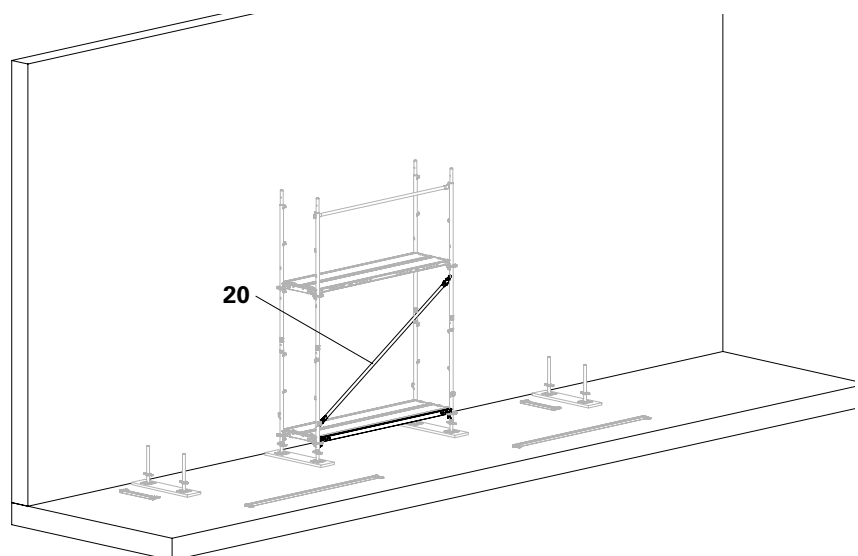

Fig. B2.10
2. Fit the horizontal ledgers according to the tie pattern. (Fig. B2.10)